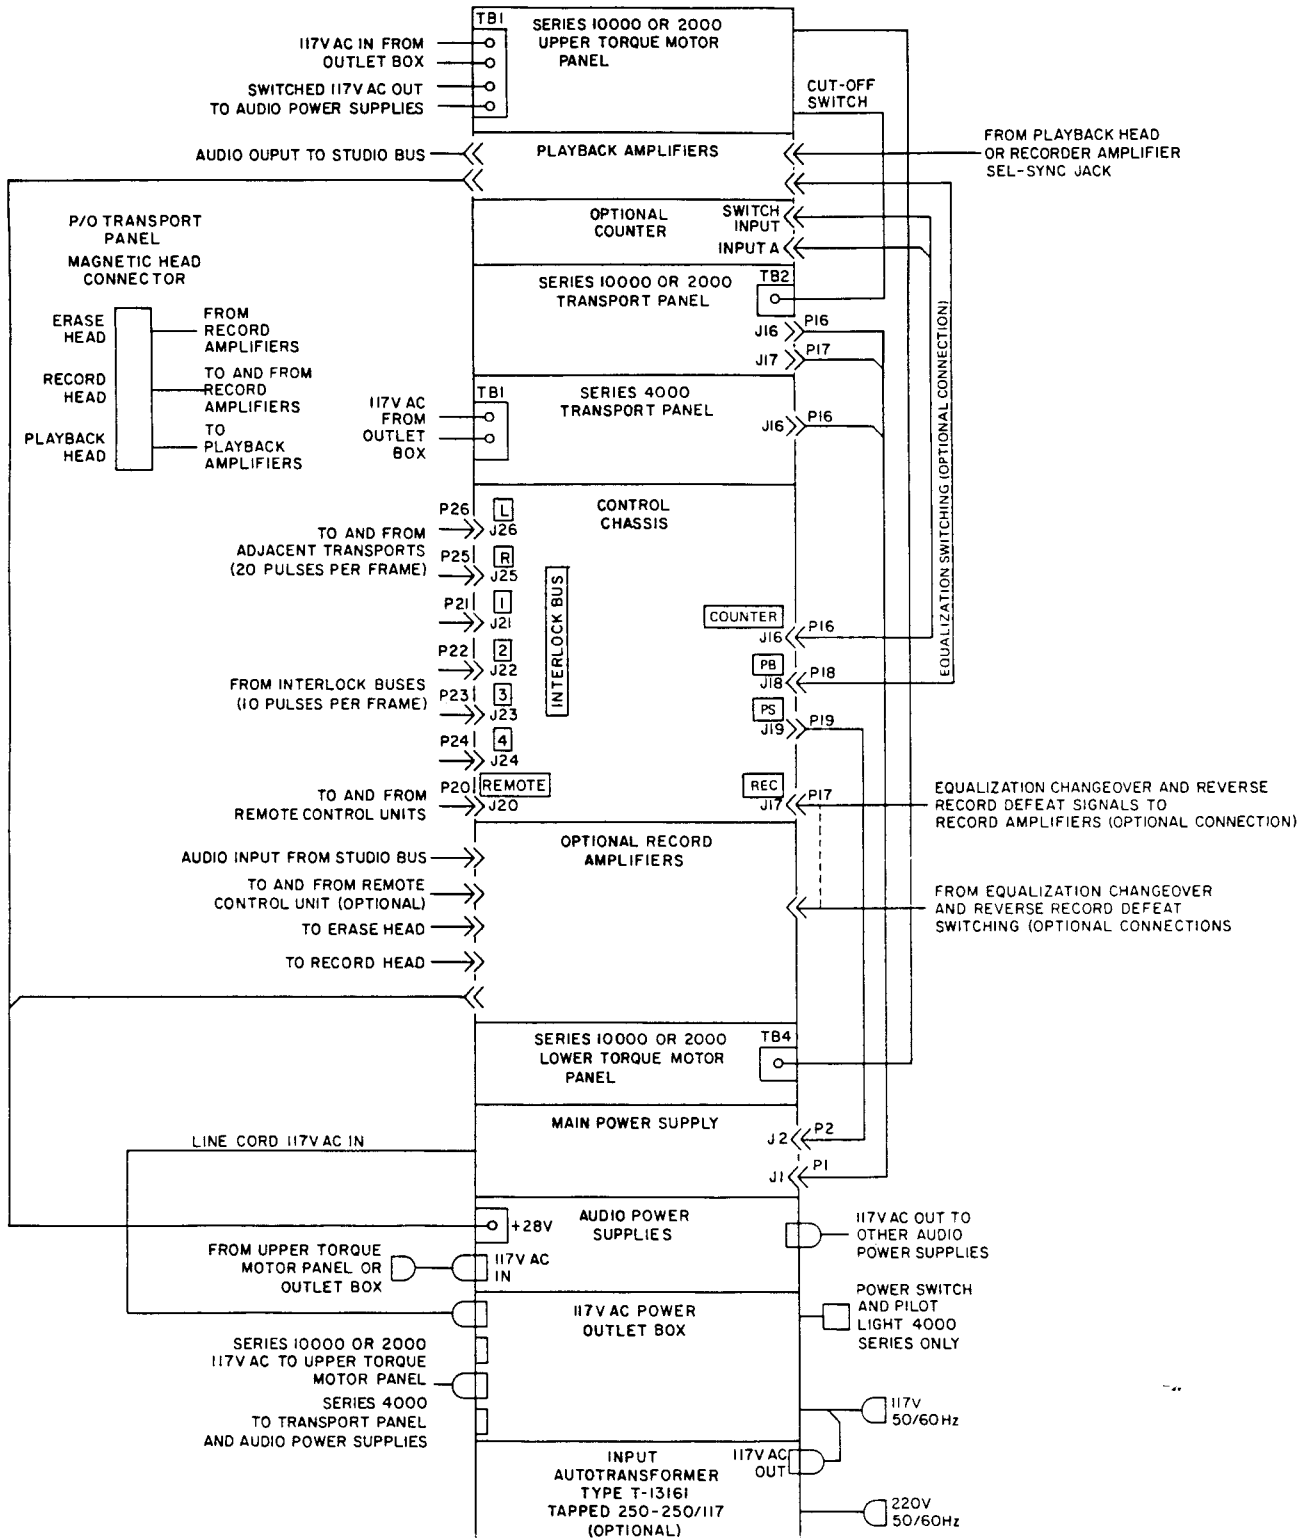

Figure 2-2. Series 2000, 4000, and 10000 Recorder or Reproducer, Internal Cabling Diagram
All electrical interconnections within the cabinet are installed at the factory. However, before connecting external power and signal cables, you should check that the internal cables are correctly and securely connected, and are not damaged. Refer to the cabling diagrams, figure 2-2, and check that all cables required by your unit are correctly connected. Check that all plugs are properly seated and locked in their sockets. Check that none of the cables are damaged, pinched, or stretched by mechanical items, or rubbing on moving parts. Because the specific equipment, and the specific connections in your unit, depend on its function and application in your studio, figure 2-2 shows typical and optional connections which may vary. Be sure to determine the correct usage for your installation before changing any connections.
Install the transport panels and control chassis at the selected locations in the rack or cabinet before installing the flywheels behind each transport panel. Secure the panels to the side rails with 12-24 or 10-32 (depending on side rail drilling) machine screws. Install the new power supply in the bottom of the rack or cabinet. Then, install the cabling required within the rack or cabinet in accordance with figure 2-2 and any special wiring or cabling diagrams supplied.
from the main distribution panel to provide power for all amplifiers and to permit no other connections to this line. The AC lines to the main power supply of each unit must be adequate, under the local electrical code, for the power requirements given in table 1-2. Refer to figure 2-2 for location and identification of power input connections.
Each unit ordered for use with 220-volt mains is supplied with an autotransformer, located at the base of the unit, to accommodate the available power source. Refer to figure 2-2. When connecting the power line, be sure to select the proper autotransformer primary tap to make the transformer output voltage 117 volts. (When connected to 220-volt power, line current requirement is approximately half of 117-volt rating given in table 1-2.)
5. Check that all intra-cabinet and studio cables are connected to the correct connector, and that all plugs are firmly seated and locked in their sockets. Refer to figure 2-2.